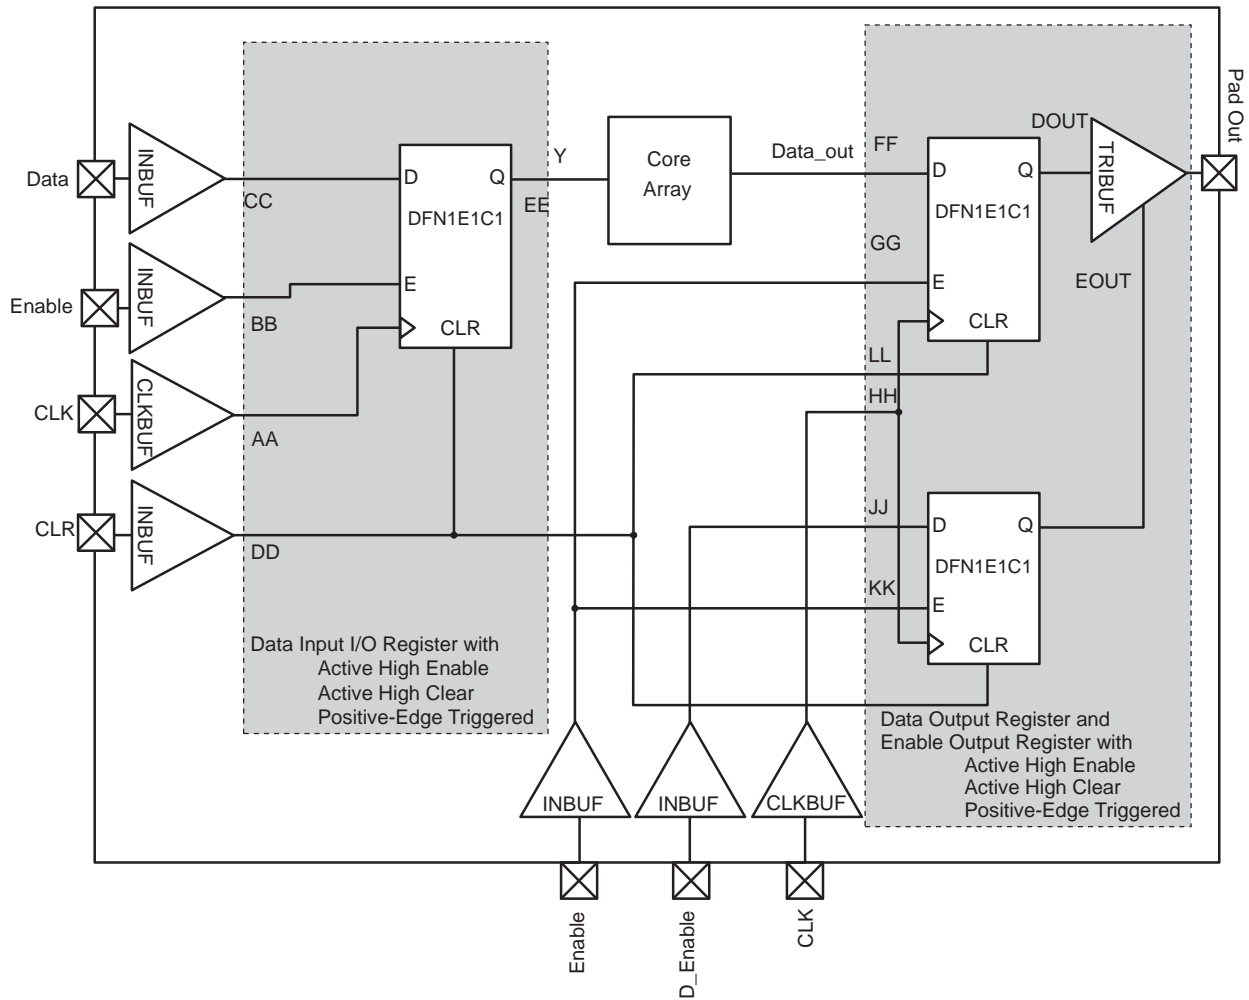

Figure 2-17 • Timing Model of the Registered I/O Buffers with Synchronous Enable and Asynchronous Clear
* See Figure 2-17 on page 2-87 for more information.